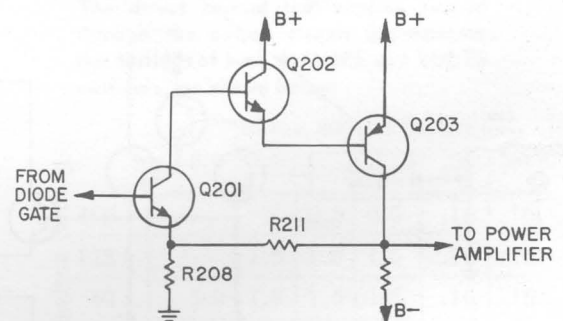

Figure 4-4. Preamplifier circuit.
4.3.3 PREAMPLIFIER. See Figure 4-4. The preamplifier consists of three transistors in a feedback circuit and provides a relatively high input impedance, with sufficient power to drive the output stage.